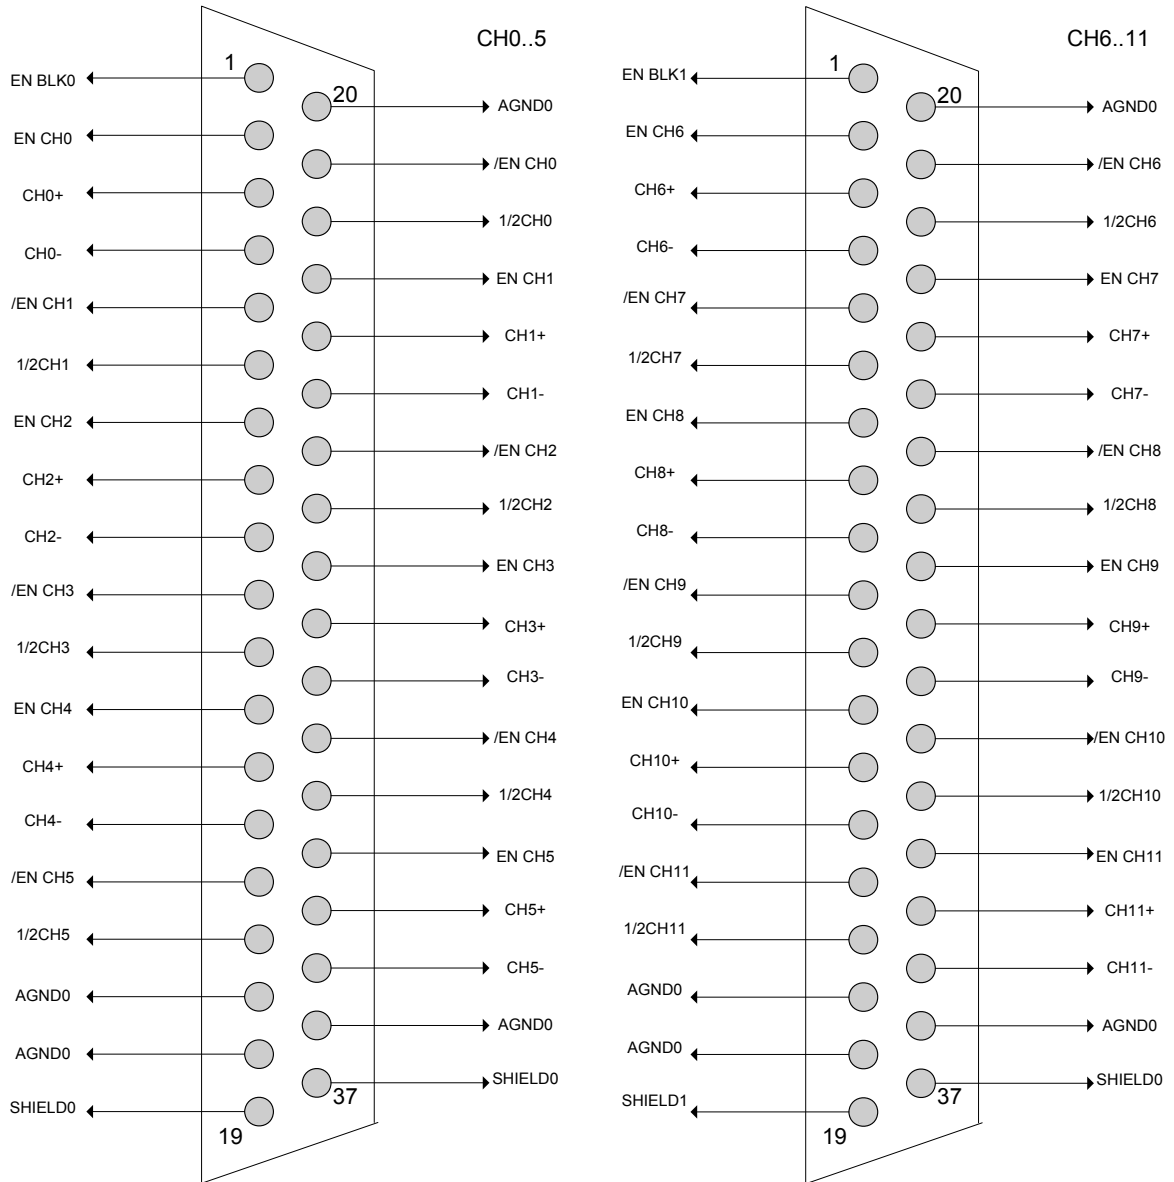

Fig. 4.3 - Mod. A 1510 front panel connectors pin assignment
- *ENMODE0*: if ENCHx and /ENCHx front connector pins (see Fig. 4.3) are not connected, x channel is enabled; if ENCHx and /ENCHx pins are short circuited, channel x is disabled